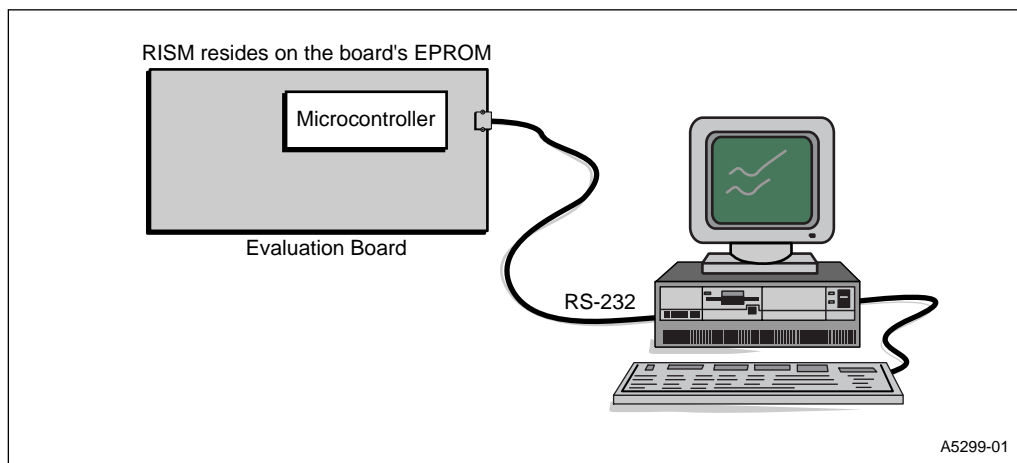

Figure 5-1. Serial Link Between the 8x930 Family USB Evaluation Board and a PC
The ROM-monitor communicates with the microcontroller by sending special RISM commands across the serial port from a personal computer (PC) at a fixed baud rate. Figure 5-1 shows the relationship between the evaluation board and a PC.